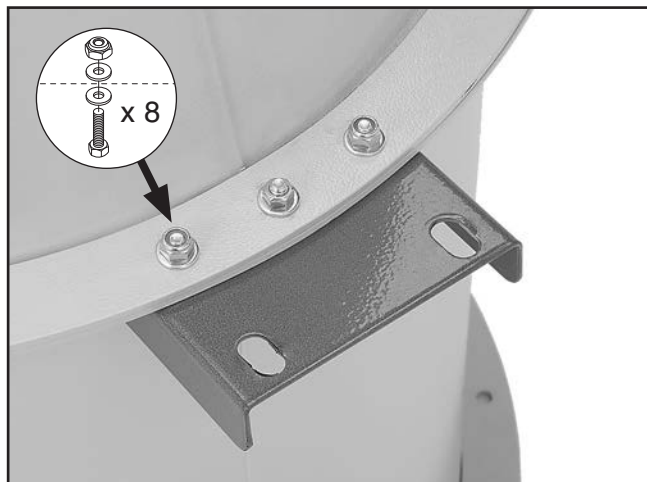

Figure 14. Collector mounting brackets attached to intake assembly (collector shown upside down in this photo).
Note: At the places where you see three holes close together as shown in **Figure 14**, only use the center hole for this step. The two outside holes will be used in the next step.
5. Attach the collector mounting brackets to the intake assembly, as shown in **Figure 14**, using (8) $\frac{5}{16}$ "-18 x 1" hex bolts, (16) $\frac{5}{16}$ " flat washers, and (8) $\frac{5}{16}$ "-18 lock nuts.